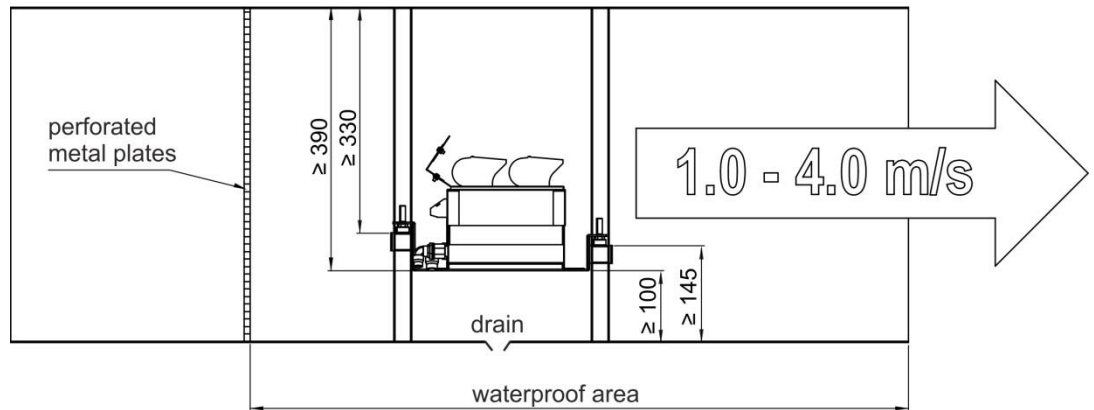
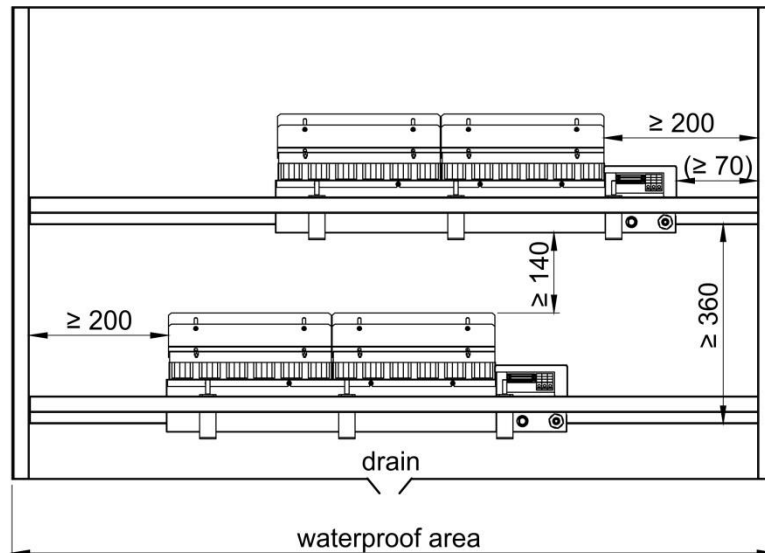
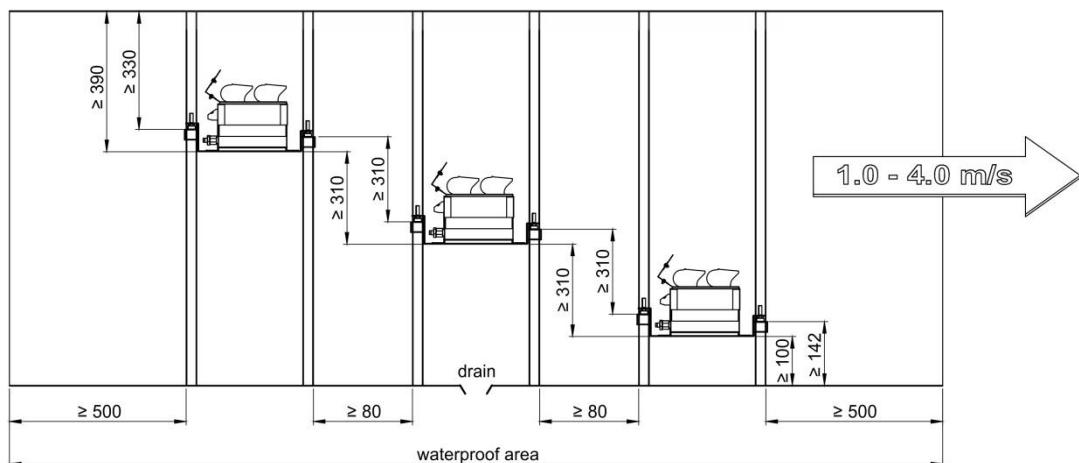
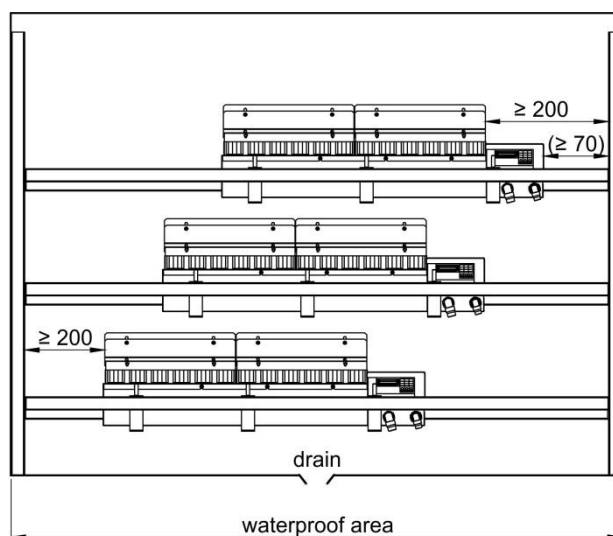

Fig. 5 - Side view into an air duct with one NKBD
fig. 6 - View into an air duct in direction of air flow, two NKBD mounted one above the other
Fig. 7 - Side view into an air duct with three NKBD
Fig. 8 - View into an air duct in direction of air flow, three NKBD mounted above each other
- The distance from the bottom edge of the NKBD to the ceiling of the air duct must be min. 390 mm (Fig. 5 and Fig. 7).
- The distance between the NKBD and the duct/trough base must be min. 100 mm (Fig. 5 and Fig. 7).
- The distance between the NKBD control housing and the duct side wall must be min. 70 mm (Fig. 6 und Fig. 8).
- The distance between the NKBD and the duct side wall must be min. 200 mm (Fig. 6 and Fig. 8).
Humidifiers are mounted one above the other; offset horizontally (Fig. 7 and Fig. 8). Mounting example on mounting frame (on site) with NKBD mounting brackets (Item No. 2000105).